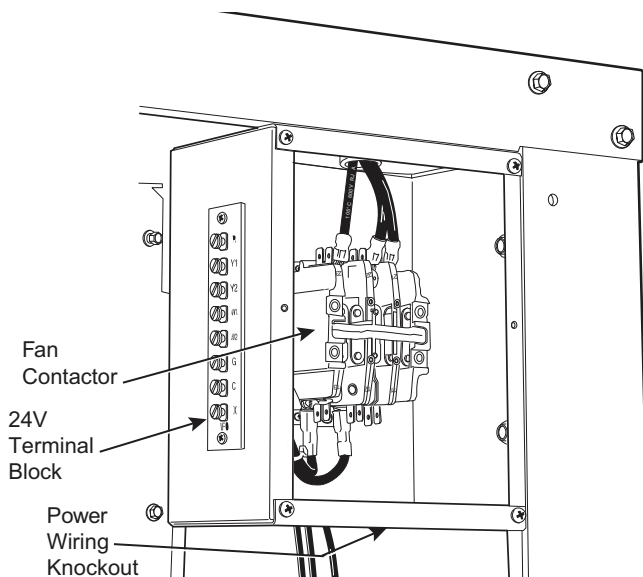
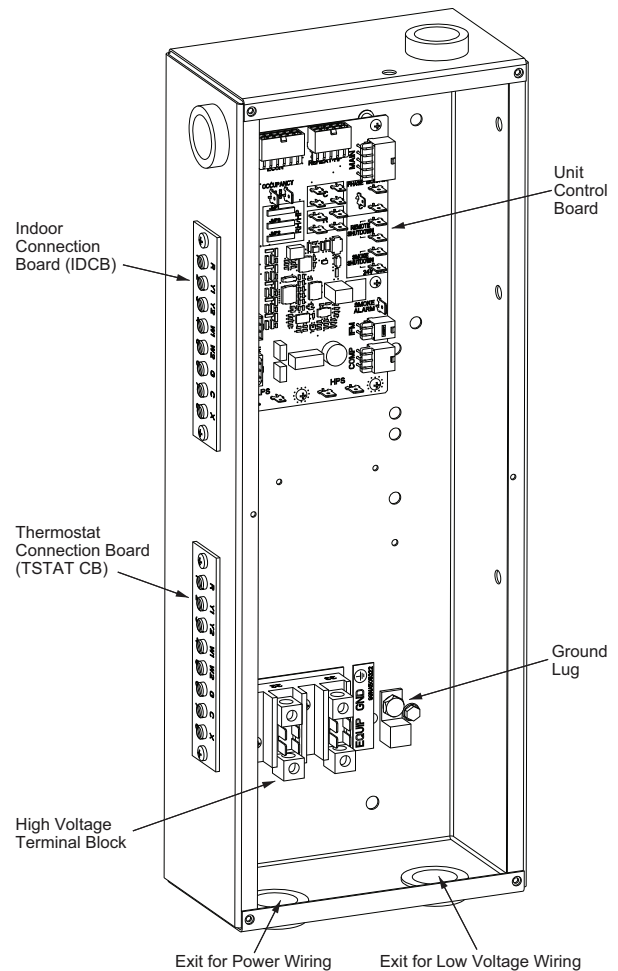

Fig. 10 — Air Handler Control Box — 40RU/524J/FAS/FHS Units
Fig. 11 — Air Handler Control Box — 40RF/524F/FAX/FHX Units
4. Remove the air handler control box cover and connect the yellow and blue wires to TB1 (40RU/524J/FAS/FHS units) or TSTAT (40RF/524F/FAX/FHX units) terminals Y1 and Y2. See Fig. 10 for air handler control box on 40RU/524J/FAS/FHS units and Fig. 11 for 40RF/524F/FAX/FHX units.